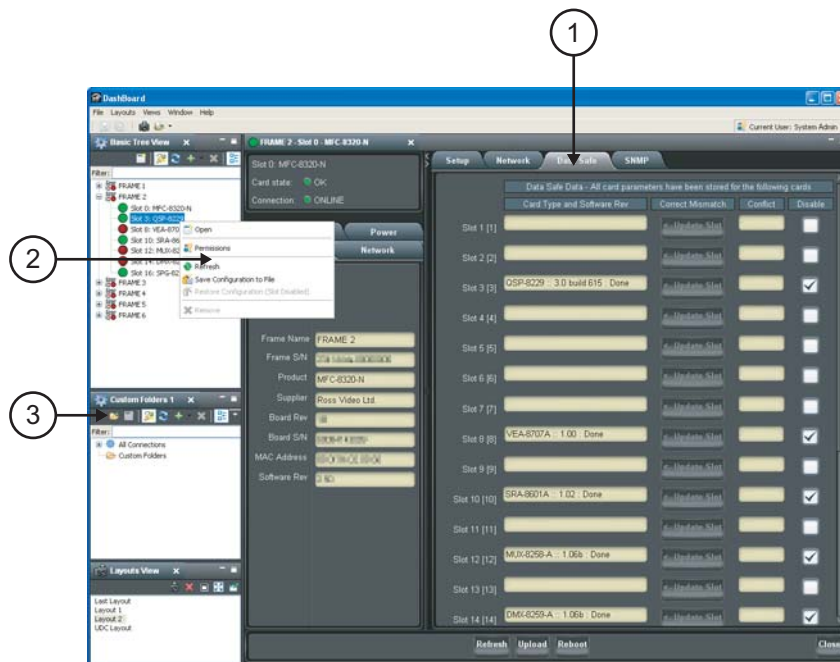

Figure 5.1 DataSafe Tab Overview
- **Card Type and Software Rev** fields — This area indicates the card installed in the slot and the software version. The information is displayed in the form of **xxxx :: #### :: y** where **xxxx** represents the card type, **####** represents the software revision, and **y** represents the card status. If the field is blank, there is no saved data for this slot. For example, in Slot 3 of **Figure 5.1**, the QSP-8229 is running with software version 3.0 build 615 while Slot 2 does not have a card installed (therefore the field is blank).